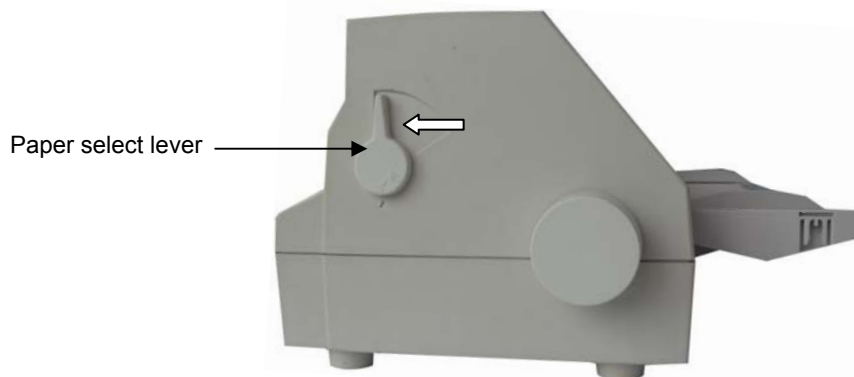

Figure 3-2 Setting the paper select lever
2. Set paper select lever toward the back of printer as shown in Figure 3-2.